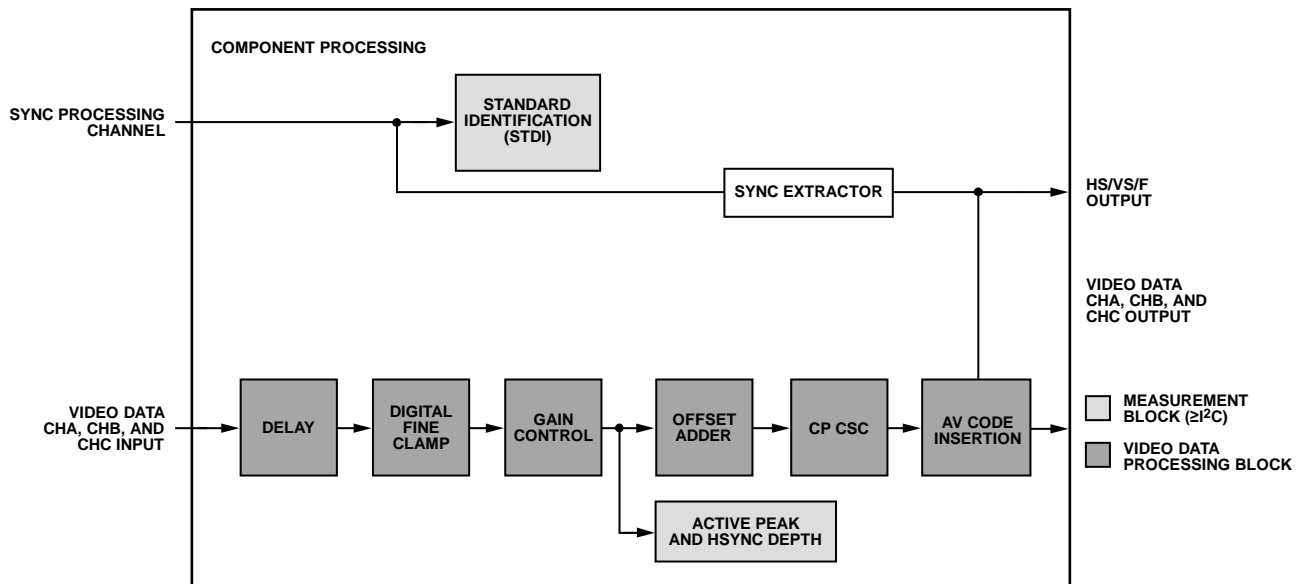

Figure 36. Component Processor Block Diagram
A simplified block diagram of the component processor (CP) on the ADV7613 is shown in Figure 36. Data is supplied to the CP from the data preprocessor (DPP). The CP circuitry is activated under the control of PRIM\_MODE[3:0] and VID\_STD[5:0].